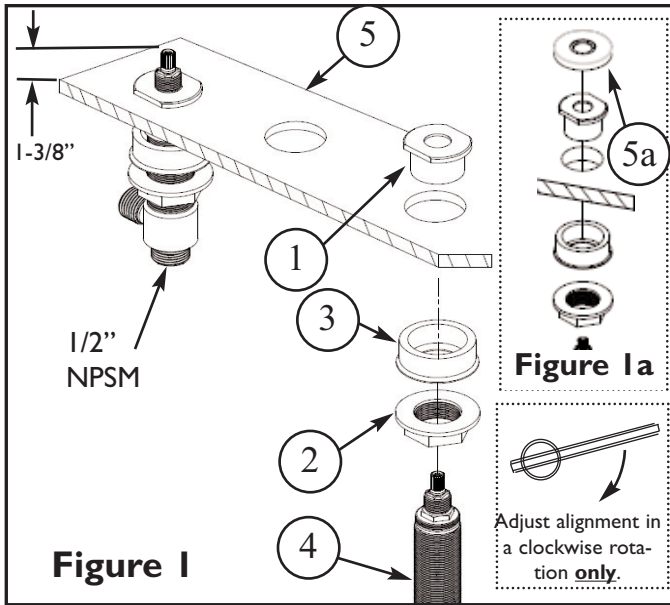
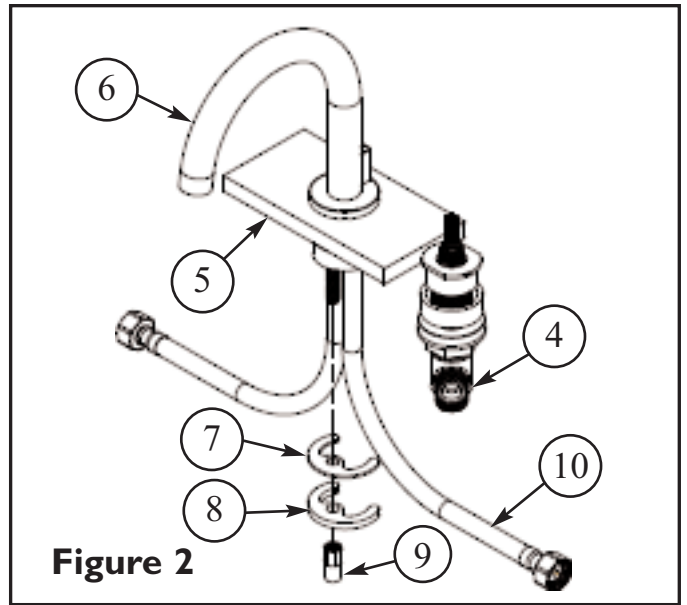

Figure 1
Figure 2
1. Place flange NUT (2), and SPACER (3) on VALVE (4). Insert VALVE (4), (blue/cold and red/hot), through the hole in the mounting surface (5) and thread into inverted mounting NUT (1) until it bottoms out. The top of VALVE (4) will be 1-3/8" for **3110 & 3130** above the top of mounting surface. Before tightening down flange NUT (2), check alignment of HANDLE (14). Any adjustments for rotational alignment must be made to the valve BODY (4), not to the CARTRIDGE (15). Place escutcheon (5a) over VALVE (4). **See Figure 1 and 1a.**
2. Place the SPOUT (6) hoses, one at a time & threaded rod through center deck hole. Secure SPOUT (6) into place with GASKET (7) WASHER (8) and NUT (9).
3. Connect the loose end of flexible HOSE (10) to side outlet of valve BODY (4). (Hand-tighten and secure each connection with a wrench 1/4 turn.) Repeat on other side. **See Figure 2.**